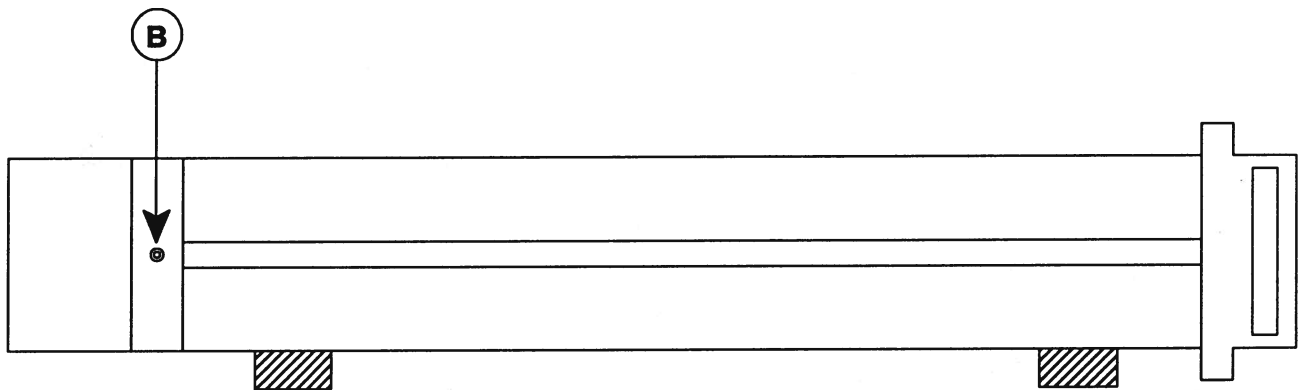

Fig. 5-4 Removal of the rear brackets
- Remove the two rear panel protecting brackets by loosening the screws "B" (see fig. 5-4).